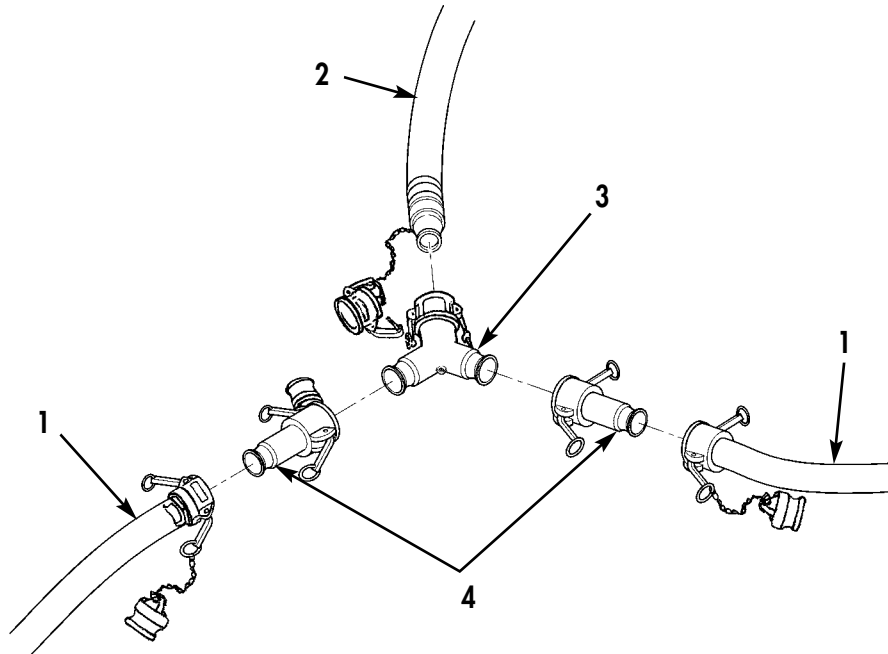

Figure 7. Hose Connections to Y-Fittings and Reducers.
15. Remove two plugs and caps, and connect two Y-fittings (Figure 7, Item 3) to two 2 in. (51 mm) DIA x 25 ft (7.6 m) long discharge hose assemblies (Figure 7, Item 2).
16. Remove four plugs and caps, and connect four 2 in. to 1.5 in. DIA (51 mm to 38 mm DIA) reducers (Figure 7, Item 4) to two Y-fittings (Figure 7, Item 3).
17. Remove four plugs and caps, and connect four 1.5 in. (38 mm) DIA x 25 ft (7.6 m) long hoses (Figure 7, Item 1) to four reducers (Figure 7, Item 4).